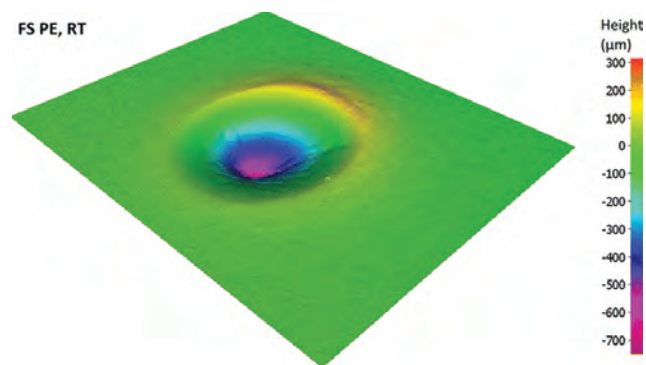

Fig. 4 — 3D optical profiles of impact craters of flame-sprayed PE coatings after high-velocity impact test at room temperature (RT).
Surface engineering shows increasing potential to provide a sustainable approach to icing problems. Icing reduces safety, operational tempo, and productivity, as well as the reliability of logistics, industry, and infrastructure. Currently, several passive anti-icing properties adaptable to coatings are known, but further research is required to proceed into practical applications. An icing wind tunnel and centrifugal ice adhesion testing equipment can be used to evaluate and develop anti-icing and icephobic coatings for potential use in various arctic environments, e.g., in wind power generation, oil drilling, mining, and logistic industries. The present study deals with evaluation of icing properties of flame-sprayed polyethylene (PE)-based polymer coatings. In laboratory-scale icing tests, thermally sprayed polymer coatings showed low ice adhesion compared with metals such as aluminum and stainless steel. The ice adhesion strength of the flame-sprayed PE coating was found to have approximately seven times lower ice adhesion values compared with metallic aluminum, indicating promising anti-icing behavior (Fig. 4).